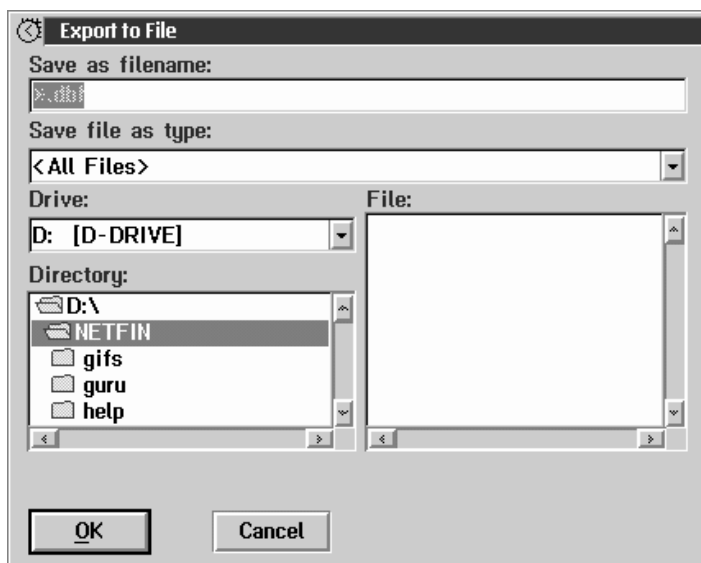

Figure 43. The Export To File window
- If you selected **Export System Information to a File**, the Export To File window appears (see Figure 43).